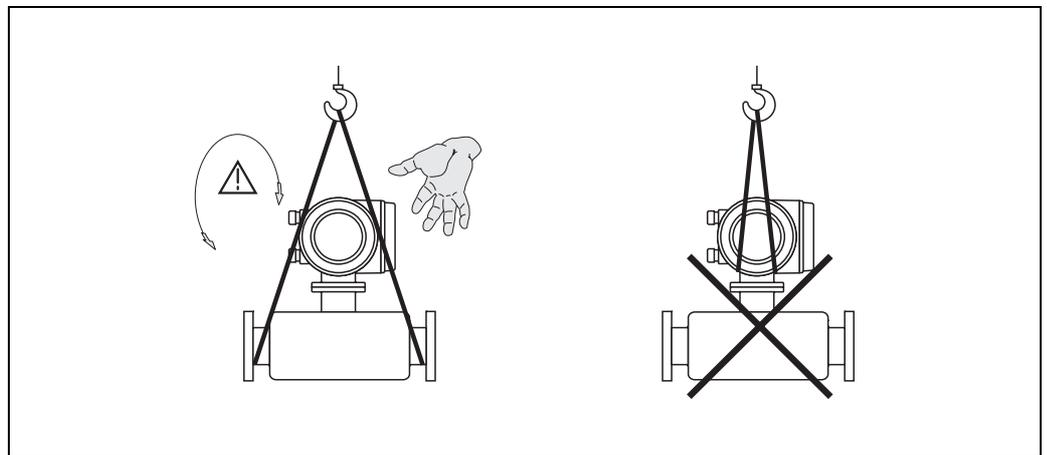

Fig. 5: Instructions for transporting sensors with $> \text{DN } 40$ ($> 1\frac{1}{2}''$)
- Do not lift measuring devices of nominal diameters $> \text{DN } 40$ ($> 1\frac{1}{2}''$) by the transmitter housing or the connection housing in the case of the remote version (Fig. 5). - Use webbing slings slung round the two process connections. Do not use chains, as they could damage the housing.